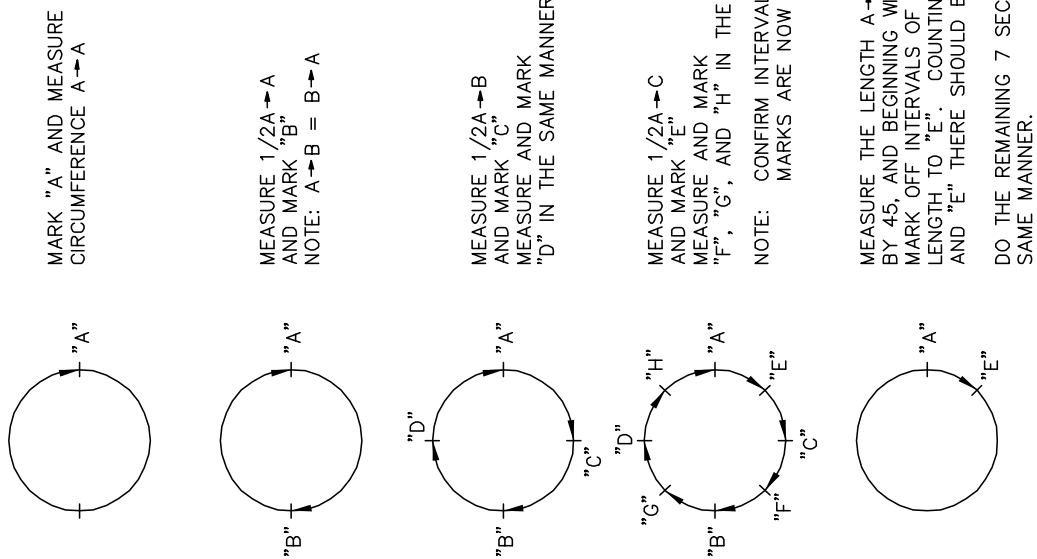

FIG. 4 IGNITION SYSTEM BASIC LAYOUT (791963-16A)
- 10.4 POWER OUTPUT: The power output is at -185V as referenced to ground. Currently a terminal strip is used to make the output connection of the power supply module, P/N (791911-1). From the output of the terminal strip, one of the following 7-pin connector harnesses: P/N 393023-X, 393011-X, 393025-2, or 393013-X is used to mate with the 7-pin input connector of the CPU-95EVS, P/N (791963-XXX). See FIG 4 and FIG 7 for a wiring diagram and pin out information.
- FIG. 4 IGNITION SYSTEM BASIC LAYOUT (791963-16A)**